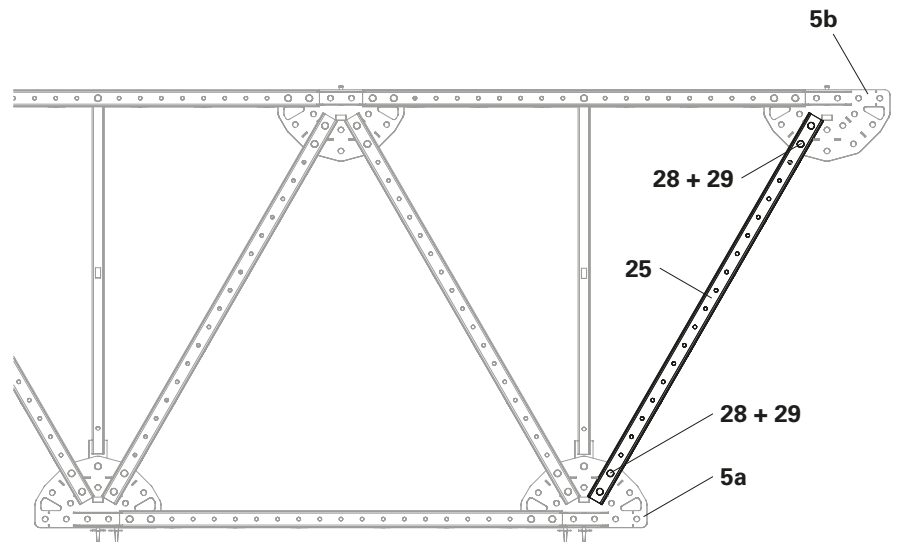

Fig. A4.22
2. Fix the Steel Waler 262 (**25**) to the Chord Nodes (**5a**) and (**5b**) using 2x fitting pins Ø 32 (**28**) respectively and secure with cotter pins 5/2 (**29**). (Fig. A4.22)